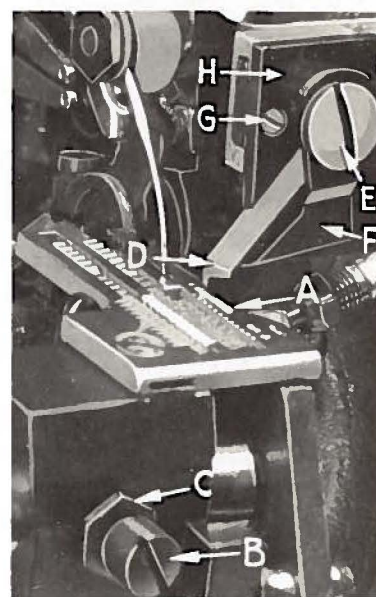

Fig. 13
Replace lower knife holder assembly. Lower knife (A, Fig. 13) should be set with cutting edge flush with throat plate surface. Adjustments are made with hexagonal head screw which holds lower knife. Lower knife is spring pressed against upper knife, so no lateral adjustment is necessary when width of trim is changed.
Replace upper knife assembly. Clamp upper knife (D, Fig. 13) in position, setting screw (E) to hold clamp (F) in its most clockwise position against upper knife. At bottom of its stroke, front cutting edge of upper knife should extend not less than $\frac{1}{64}$ inch below cutting edge of lower knife.